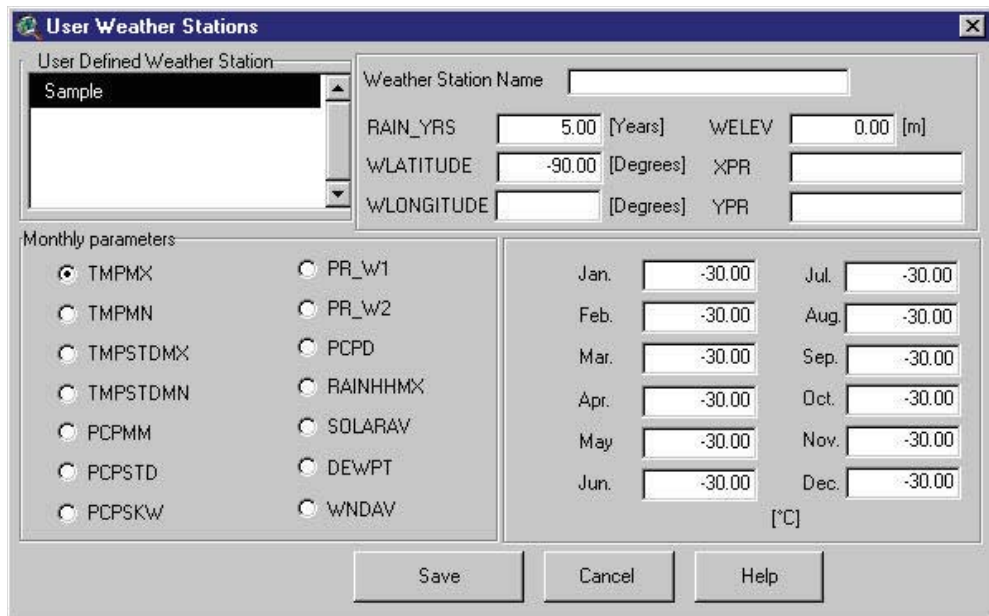

Figure 14.25
- A modified dialog box will appear with all the data fields filled (copied from the previously selected weather station data) except the weather station name (Figure 14.25).